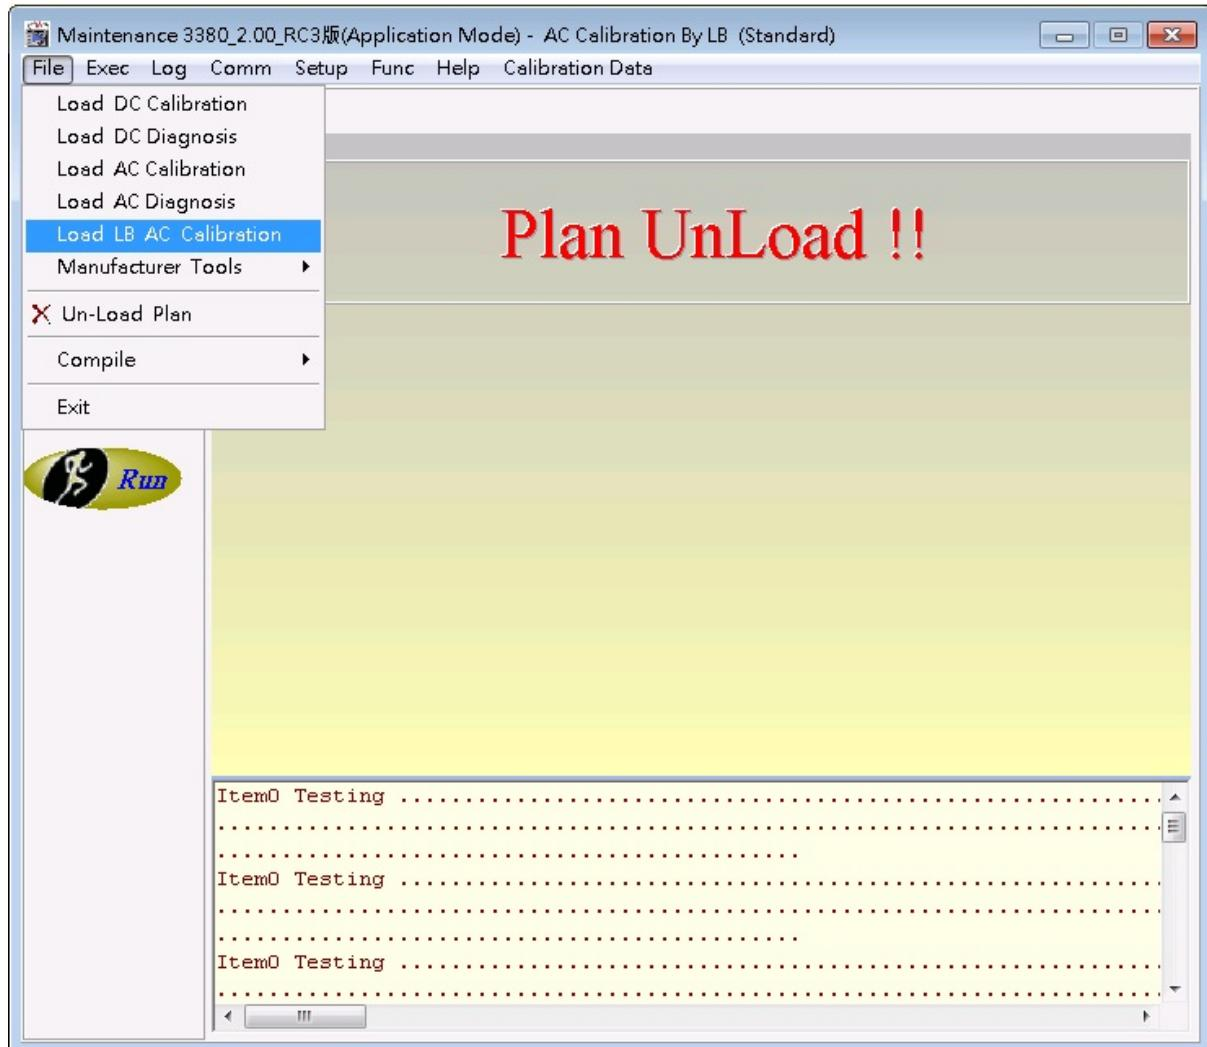

Figure 3-37 AC Diagnosis Window
1. Click “Load LB AC Calibration” in CRAFT software window as *Figure 3-37* shown.
2. Click “Load LB AC Calibration” in CRAFT software window as *Figure 3-37* shown.